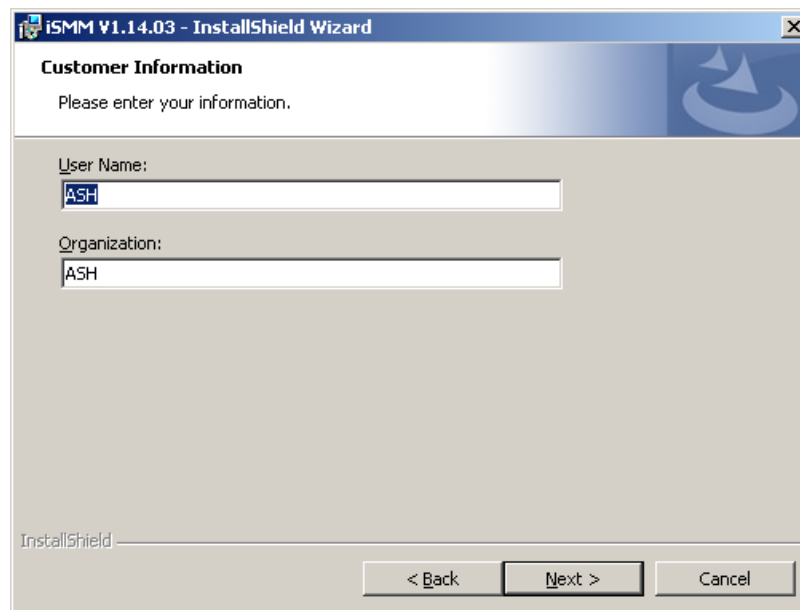

Figure 6-41: iSMM Installation Customer Information
Step 7: The customer information in Figure 6-41 appears.